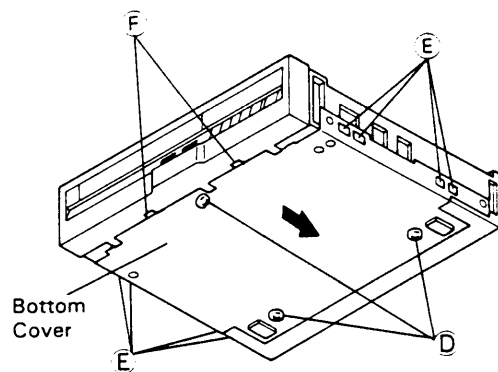

Fig. 1-1-3
2. Refer to Fig. 1-1-3 and take out 3 screws (D) and disengage 4 claws (E) from the bottom of the chassis.
3. Disengage the bottom cover from the bottom of the chassis slide in direction of arrow and disengage 2 tabs (F).